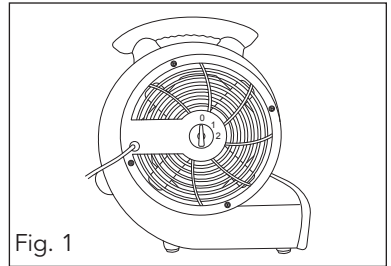

Fig. 1
- 0° Position for applications such as; drying wet floors, carpets, etc. To use this position place unit on its rubber feet (7) (Fig. 1)